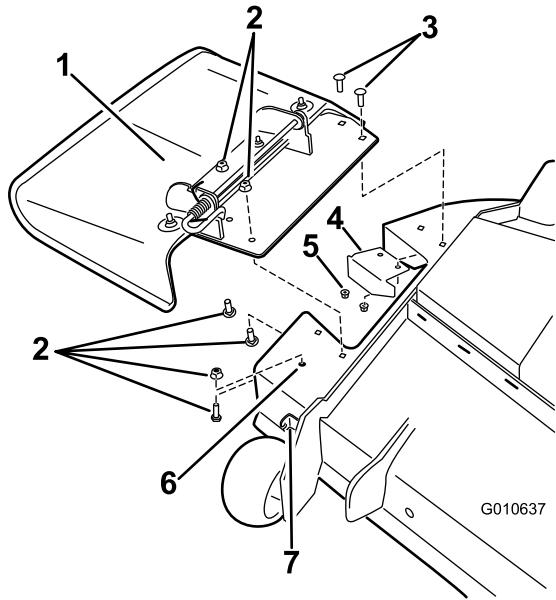

Figure 5
1. Remove fasteners securing the deflector assembly and existing cut off baffle to the mower deck (Figure 5). Retain all fasteners.